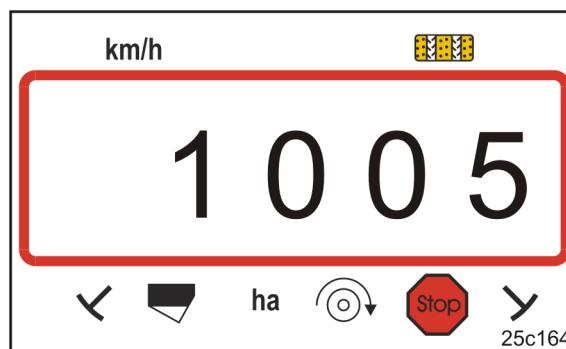

Fig. 20
- The display (Fig. 20) shows the calibration value (e.g. 1005 imp./100 m).